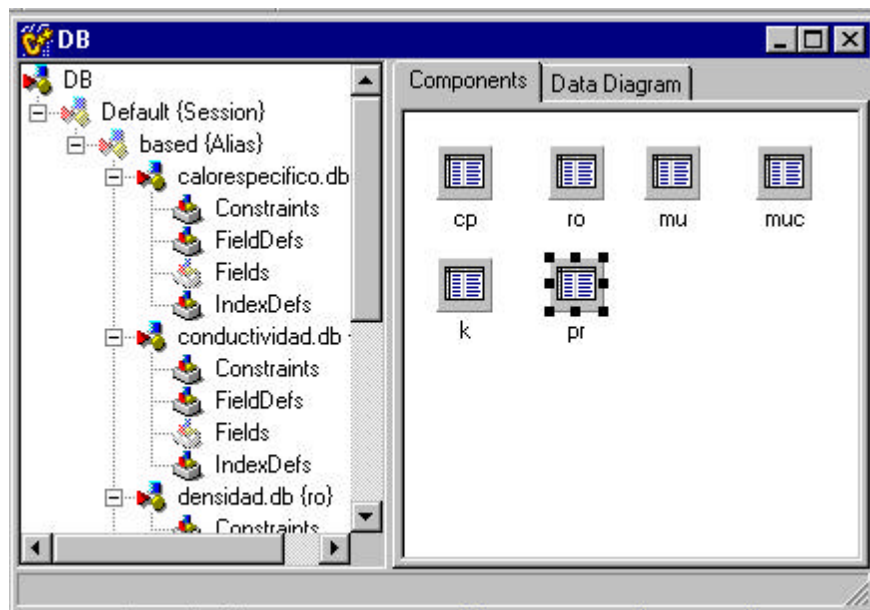

Figura 4.15: TDB
4.3. MÓDULO DE DATOS TDB (figura 4.15)